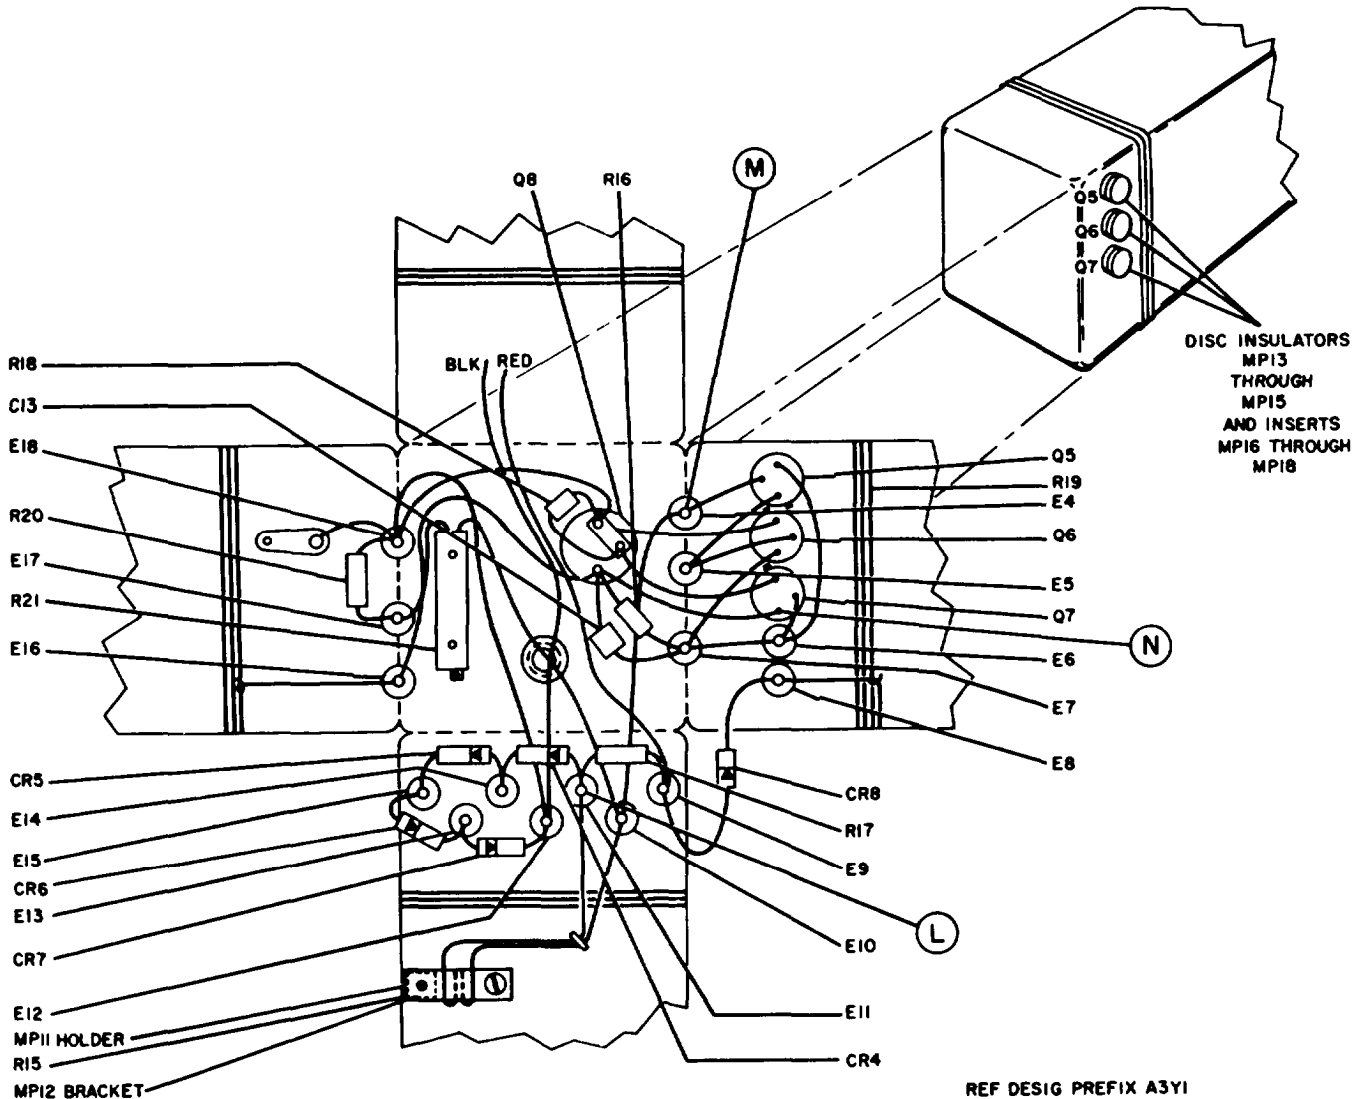

Figure 5-27. Crystal Oven, Location of Parts (OVENAIRE)
(2) Unsolder the two crystal leads from feedthru terminals A3Y1E2 and A3Y1E3 (figure 5-27).
(3) Remove and save the six screws and lockwashers that secure the crystal shield A3Y1MP7 to the panel A3Y1MP6; then remove the crystal shield together with the crystal.
(4) Remove and save the three screws, washers, and nuts that secure the crystal shield to the crystal; then remove the crystal shield.
(5) Remove and save the resilient mount A3Y1MP7 from around the defective crystal.
(6) Wrap resilient mount around the glass envelope of the replacement crystal; hold the wrap in place with one hand and slide the crystal shield over it. Allow the two crystal leads to pass through the bottom opening of the crystal shield.
(7) Secure crystal shield to the crystal by means of the three screws, washers, and nuts removed in step (4).
(8) Secure the crystal shield together with the crystal to the panel by means of the six screws and lockwashers removed in step (3).
(9) Place flexible tubing on each crystal lead; then solder the m to the two feedthru terminals; either one of the leads may be soldered to either terminal.
(10) Reassemble the 1-me oscillator by following steps (1) through (8) of paragraph ac in a reverse order.
(11) Perform the frequency adjustment procedure of paragraph 5-4i. Modify the test setup by